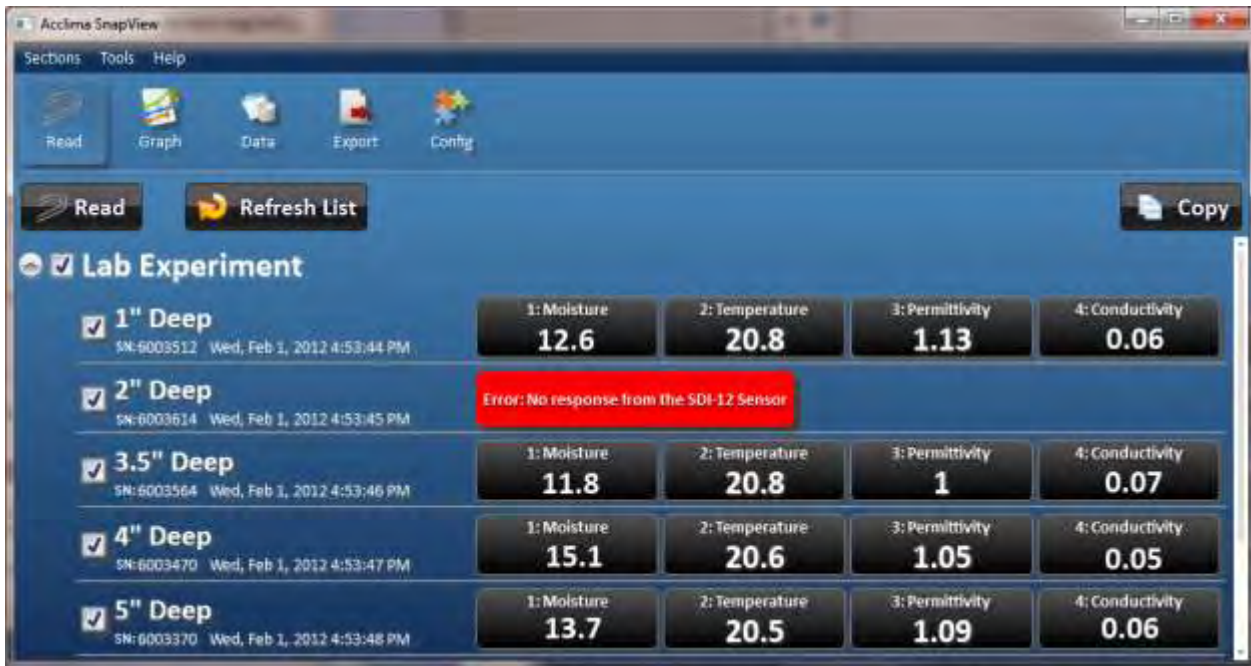

Figure 20 – Read Sensors
- Click the 'Read' button to read each selected sensor. The sensor's name, serial number, reading time and measurement data is displayed. If a configured sensor is not attached to the DataSnap, an error is displayed. Notice in figure 20, the sensor named '2" Deep' had an error.